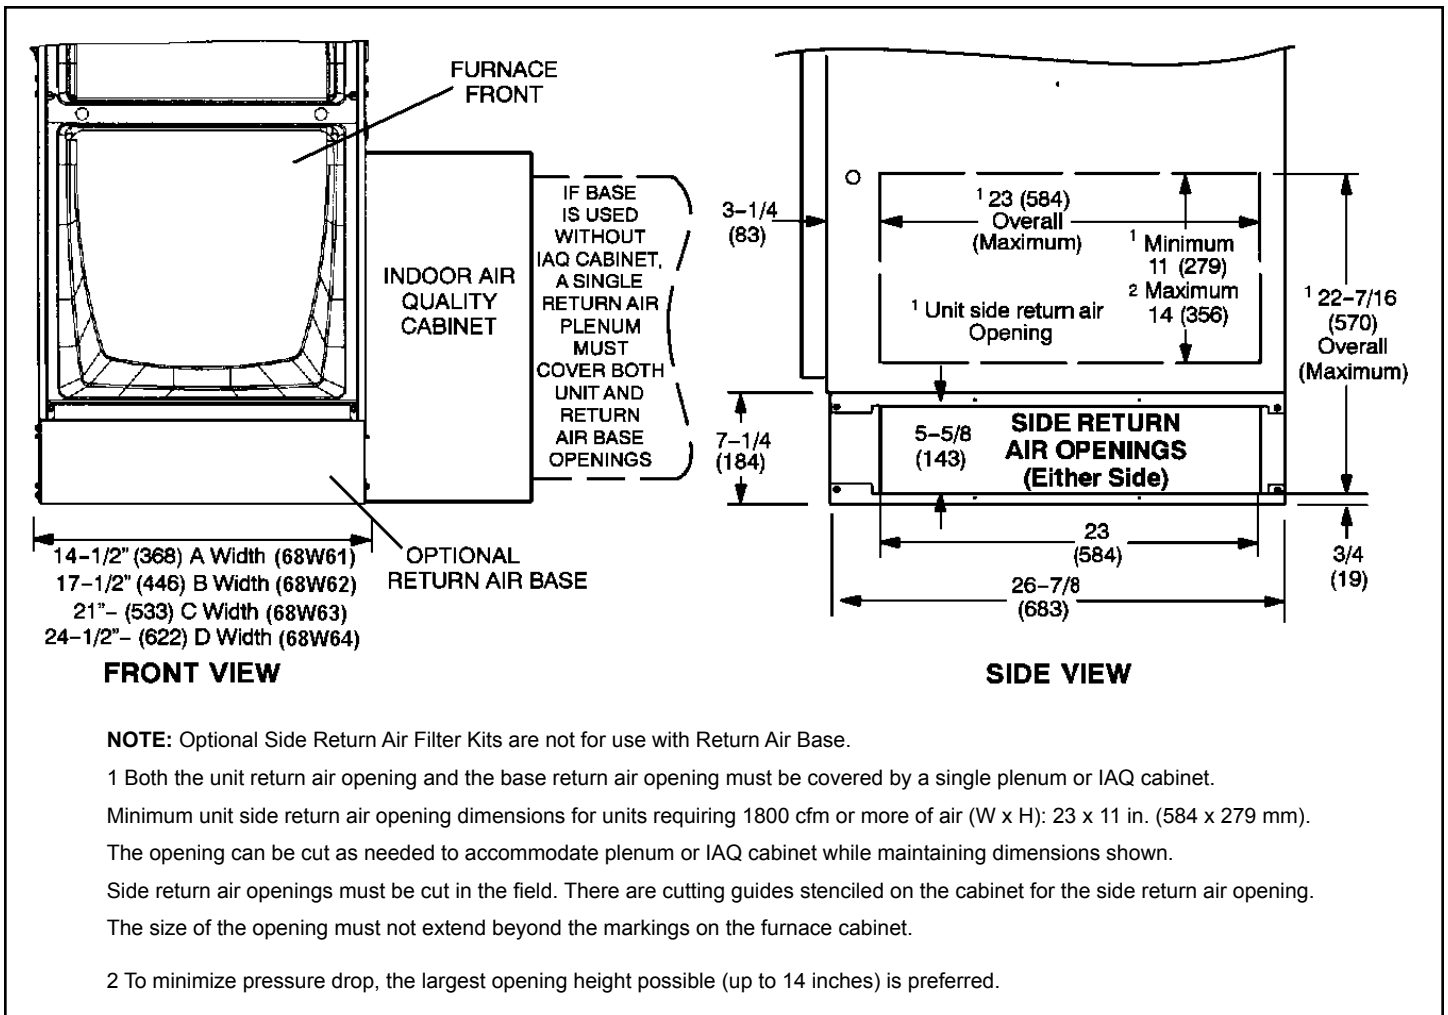

Figure 11. Optional Return Air Base (Upflow Applications Only - For Use with A, B, C and D Cabinets)
- Single side return air with optional return airbase. See Figure 11.